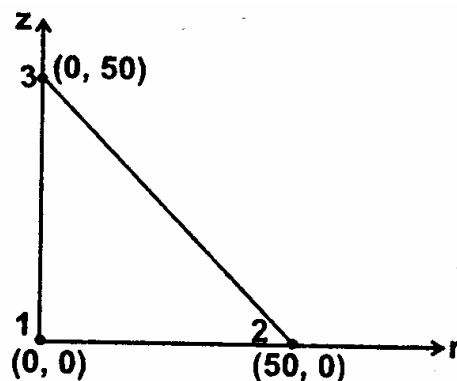

figure 4.3
3. For the axisymmetric element shown in figure 4.3, determine the stiffness matrix. Let $E = 2.1 \times 10^5 \text{ MN/m}^2$ and $\mu=0.25$. The coordinates are in mm.